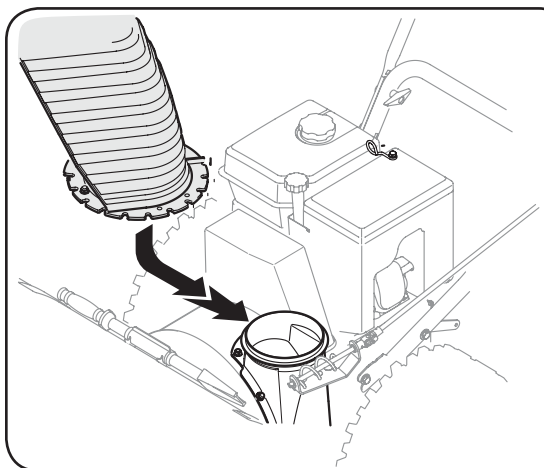

Figure 3-6
- Place the chute assembly onto chute base, making sure the flange keepers are beneath lip of chute adapter. The notches should engage with the spiral end of the chute crank. See Figure 3-6.